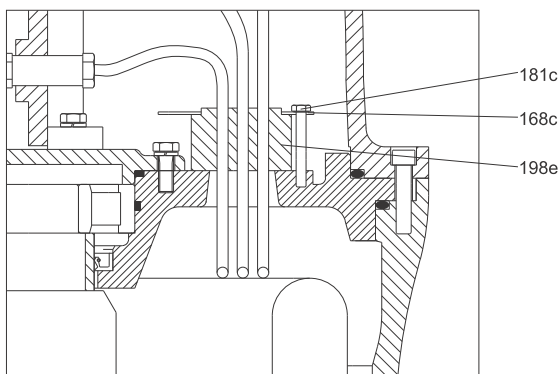

Fig. 97 Cable bushing on the upper bearing bracket
9. Take the correct number of wires through each cable bushing (pos. 198e, 198f, 199), so it fits the correct cable gland.
10. Mount the bearing bracket (pos. 61c) on the stator housing (pos. 55) and tighten the screws (pos. 183).
11. Fit the correct cable glands (pos. 198e) and cable entries (pos. 168c). See fig. 97.
12. Fit the screws (pos. 181c) and tighten them according to section 7. *Tightening torques and lubricants*.
13. Turn the stator housing (pos. 55) with upper bearing bracket (pos. 61c) upside down.